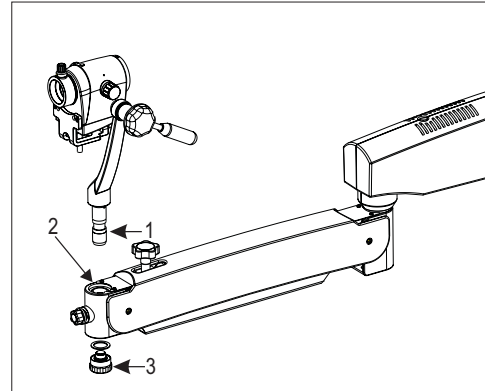

Fig. 5
7.4 Retrieve the straight coupling assembly from the packing. Install the coupling to the suspension arm by sliding the guiding shaft (1) to the suspension arm. Make sure to loosen the locking screw (2) before sliding in the guiding shaft. Lock the coupling with the threaded plug (3). See figure 5. Install all the locking knobs to the suspension arm, coupling and magnichanger locking knob.